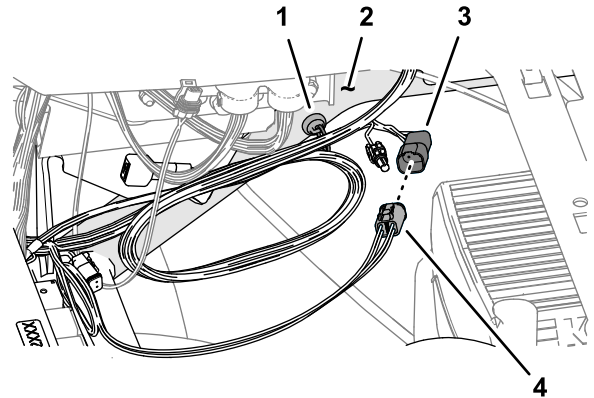

Figure 165
- 1. Adhere the magnetic mount of the kit sprayer harness to the right, upper tube frame of the machine (Figure 165).
- 2. Plug the 4-pin connector labeled CAN 2 ASC 10 BUS of the data harness into the 4-socket connector labeled ASC10 PWR & CAN FROM X30 of the kit sprayer harness (Figure 165).